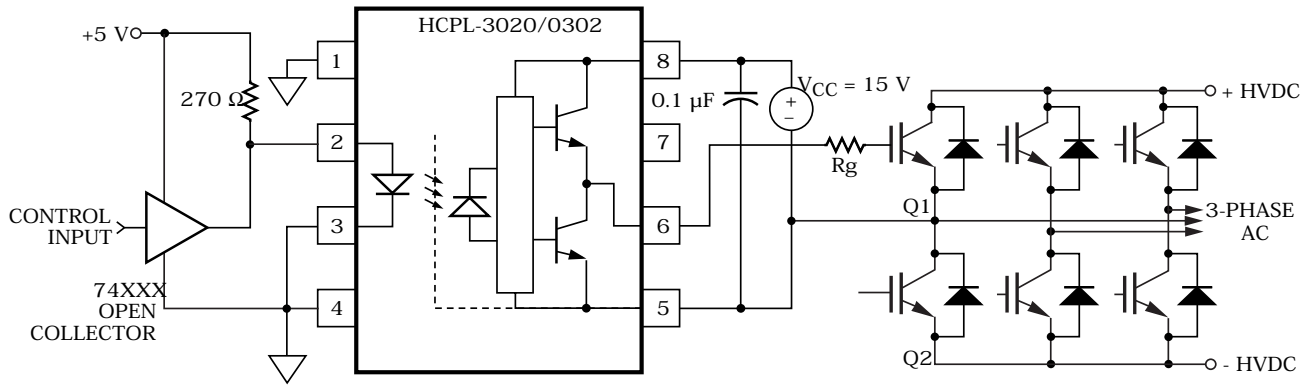
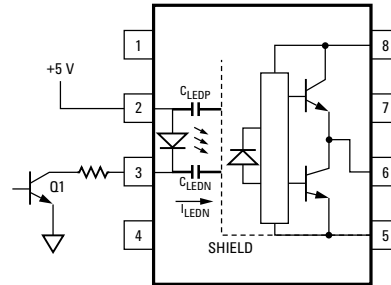

Figure 17. Recommended LED drive and application circuit for HCPL-3020 and HCPL-0302.
Figure 22. Not recommended open collector drive circuit.
To keep the IGBT firmly off, the HCPL-3020 and HCPL-0302 have a very low maximum V_{OL} specification of 1.0 V. Minimizing R_g and the lead inductance from the HCPL-3020 or HCPL-0302 to the IGBT gate and emitter (possibly by mounting the HCPL-3020 or HCPL-0302 on a small PC board directly above the IGBT) can eliminate the need for negative IGBT gate drive in many applications as shown in Figure 17. Care should be taken with such a PC board design to avoid routing the IGBT collector or emitter traces close to the HCPL-3020 or HCPL-0302 input as this can result in unwanted coupling of transient signals into the input of HCPL-3020 or HCPL-0302 and degrade performance. (If the IGBT drain must be routed near the HCPL-3020 or HCPL-0302 input, then the LED should be reverse biased when in the off state, to prevent the transient signals coupled from the IGBT drain from turning on the HCPL-3020 or HCPL-0302.
Step 1: Calculate R_g minimum from the I_{OL} peak specification. The IGBT and R_g in Figure 17 can be analyzed as a simple RC circuit with a voltage supplied by the HCPL-3020.
where $K_{ICC} \cdot Q_g \cdot f$ is the increase in I_{CC} due to switching and K_{ICC} is a constant of 0.001 mA/(nC*kHz). For the circuit in Figure 17 with I_F (worst case) = 10 mA, $R_g = 57.5 \Omega$, Max Duty Cycle = 80%, $Q_g = 100$ nC, $f = 20$ kHz and $T_{AMAX} = 85^\circ\text{C}$:
perturbations in the LED current during common mode transients and becomes the major source of CMR failures for a shielded optocoupler. The main design objective of a high CMR LED drive circuit becomes keeping the LED in the proper state (on or off) during common mode transients. For example, the recommended application circuit (Figure 17), can achieve $10 \text{ kV}/\mu\text{s}$ CMR while minimizing component complexity.
The open collector drive circuit, shown in Figure 22, cannot keep the LED off during a $+dV_{CM}/dt$ transient, since all the current flowing through C_{LEDN} must be supplied by the LED, and it is not recommended for applications requiring ultra high CMR₁ performance. The alternative drive circuit, which likes the recommended application circuit (Figure 17), does achieve ultra high CMR performance by shunting the LED in the off state.